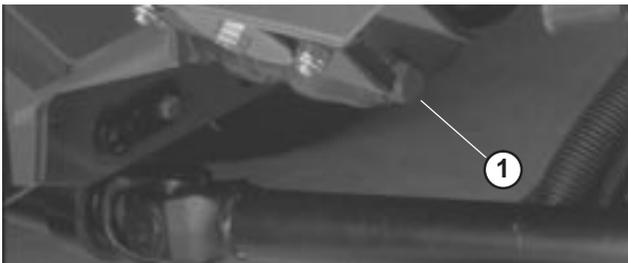

Figure 49
1. Remove drain plug (Fig. 49) and let oil flow into drain pan. When oil stops, install drain plug.